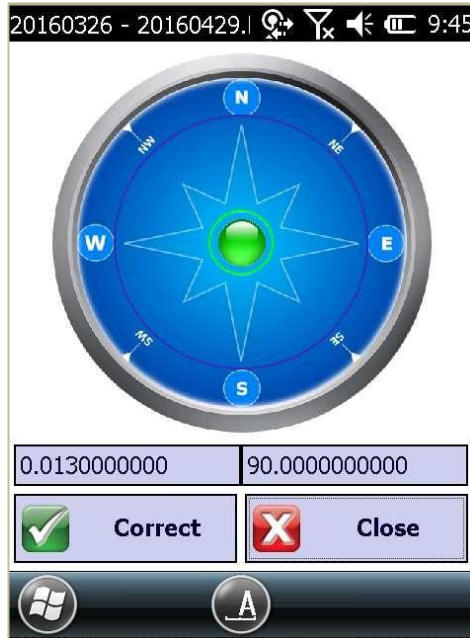

Fig 5-33
- ① Open the option of Incline calibration: Click [setting]→[System]. Select the function of the Incline, as shown in the figure 5-33, then click "OK"